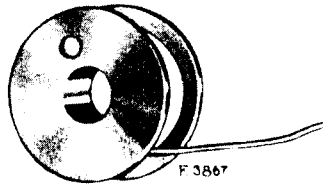
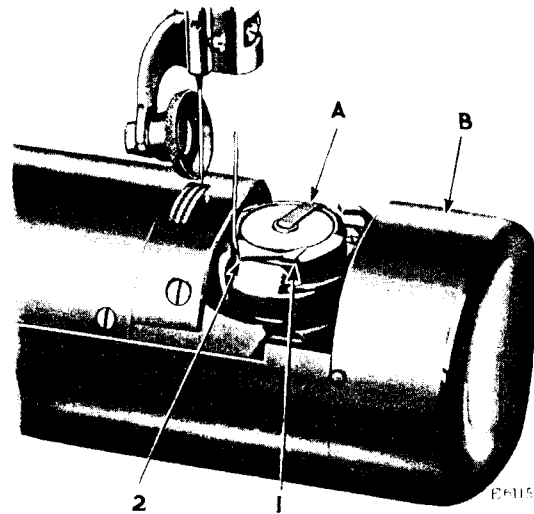

Fig. 4. Direction of Thread on Bobbin
Fig. 5. Bobbin Case Threaded
Draw out the cylinder end cover (B, Fig. 5) at the right of the needle. Insert the finger nail of the forefinger under the latch (A, Fig. 5), raise the latch and lift out the bobbin.
(see Fig. 4) and place it on the centre stud of the bobbin case, then push down the latch (A) as shown in Fig. 5. Draw the thread into the slot (1, Fig. 5), under and back of the projection (2, Fig. 5), leaving a loose end of thread about two inches long above the cylinder end cover. When closing the cylinder end cover, leave just enough space for the thread to pass through.
Remove the cylinder end cover (B, Fig. 5).